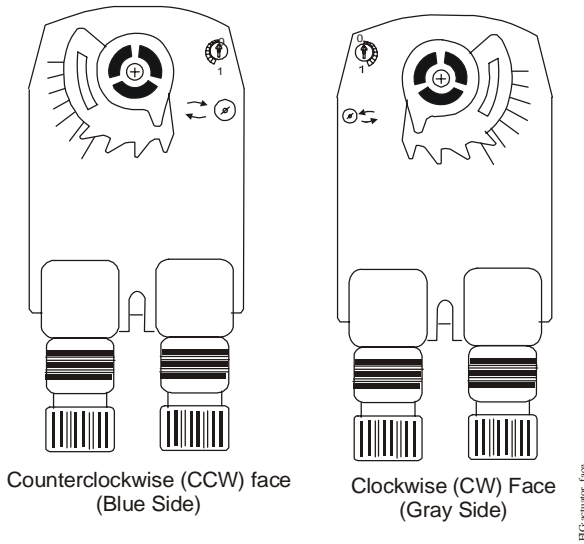
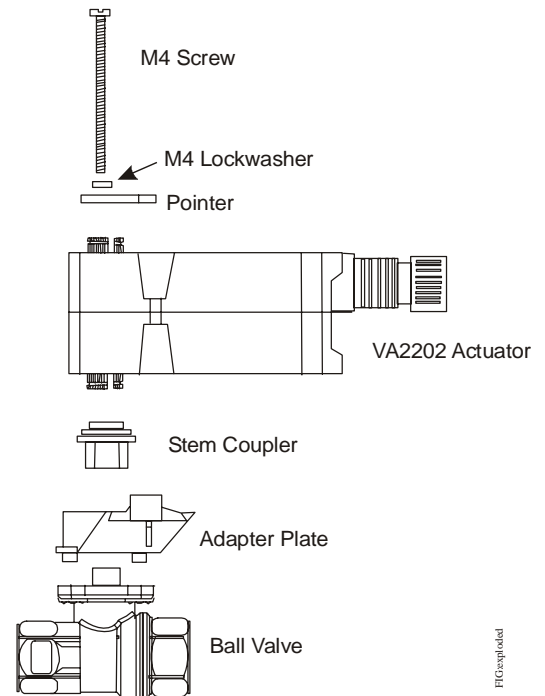

Figure 4: Selecting the Spring-Return Direction
Figure 5: Exploded View of Actuator Mounting
For Counterclockwise (CCW) spring return operation (see Figure 4 and Table 3), mount the actuator, so the CCW face of the actuator (blue side) is away from the valve as illustrated in Figure 5. The actuator drives Clockwise (CW) and spring returns CCW.
For CW spring return operation (see Figure 4 and Table 3), mount the actuator so the CW face of the actuator (gray side) is away from the valve as illustrated in Figure 5. The actuator drives CCW and spring returns CW.
See Figure 5 for correct sequence of parts installation.
VA2202-BGx-2 Series operate on 24 VAC at 50/60 Hz or 24 VDC. VA-2202-BAx-2 Series operate on 85 to 265 VAC at 50/60Hz. The actuator can be mounted to spring return either clockwise or counterclockwise. See Table 3 and Figure 4.